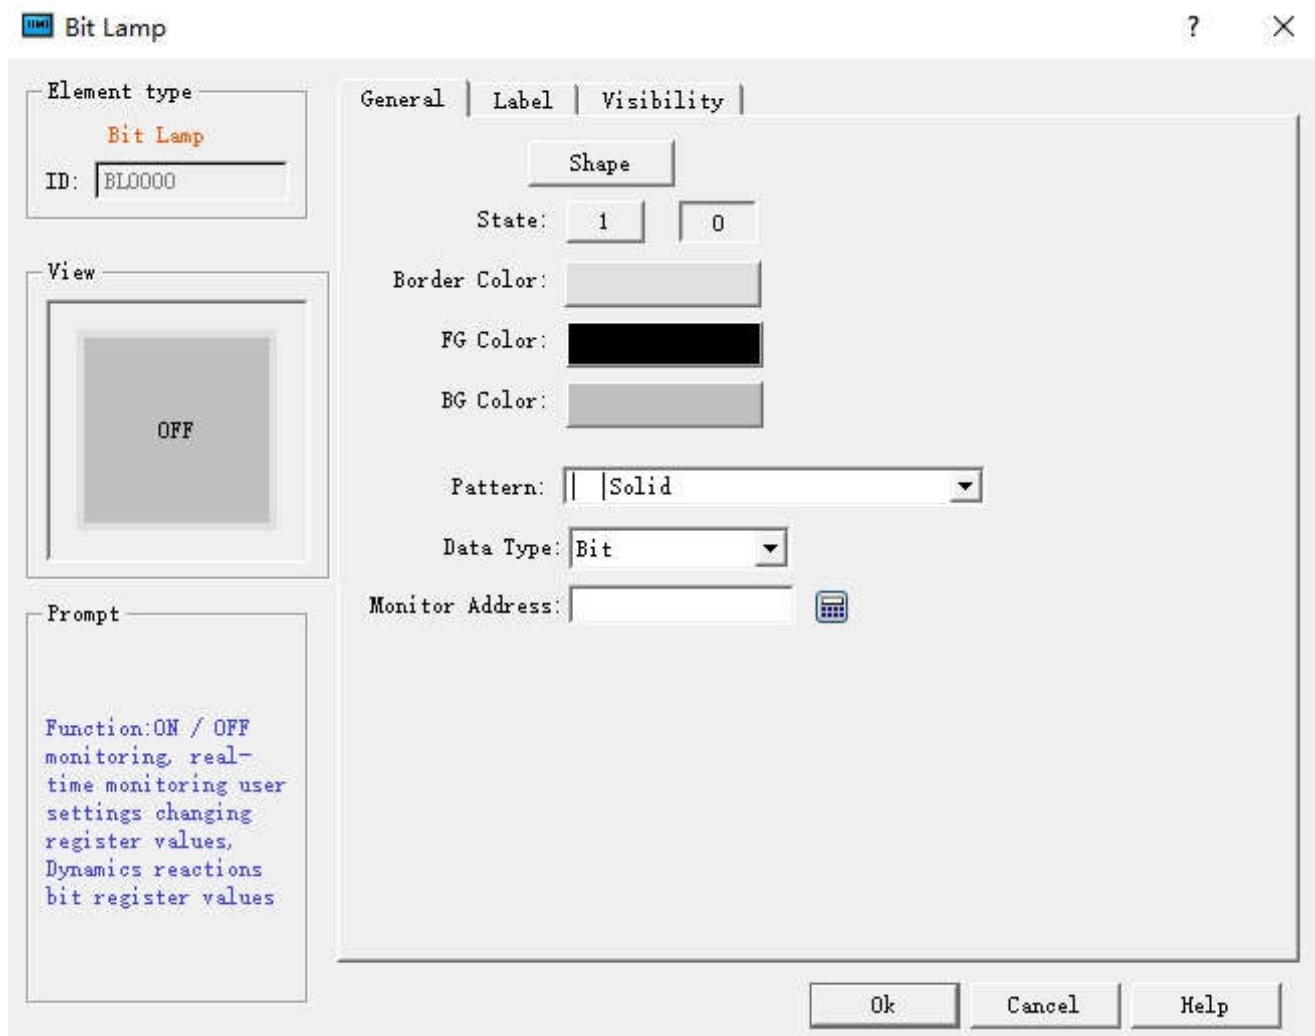

Figure 4-75 Bit Lamp dialog box
1. Select the Bit Lamp button icon  on the toolbar: The dialog box shown in Figure 4-75 will pop up: